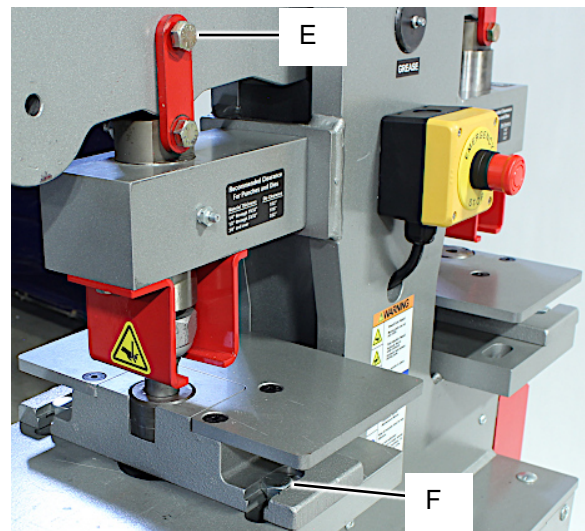

Figure 10
10. Raise the connector plates and install the rocker arm pivot bolt. (Fig. 10, E)
11. Install the table retaining bolts, flat washers, heavy washers, and nuts. Center the bolts within the slots so that the bolts form a straight line from each bolt through the center of the die. (Fig. 10, F).
13. Hold the table and bolts in this position and tighten securely. (Fig. 10, F).